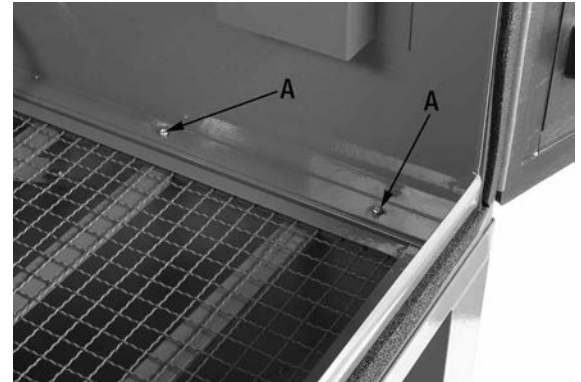

FIGURE 9
- 8) Now the sandblast cabinet gets installed on top of the wire mesh bracket. It is recommended to do this step with the help of another person. Once positioned, the cabinet and all the components installed previously all need to be secured together from the inside of the cabinet using 14 pan head screws (A) Fig.9 and hex. nuts.